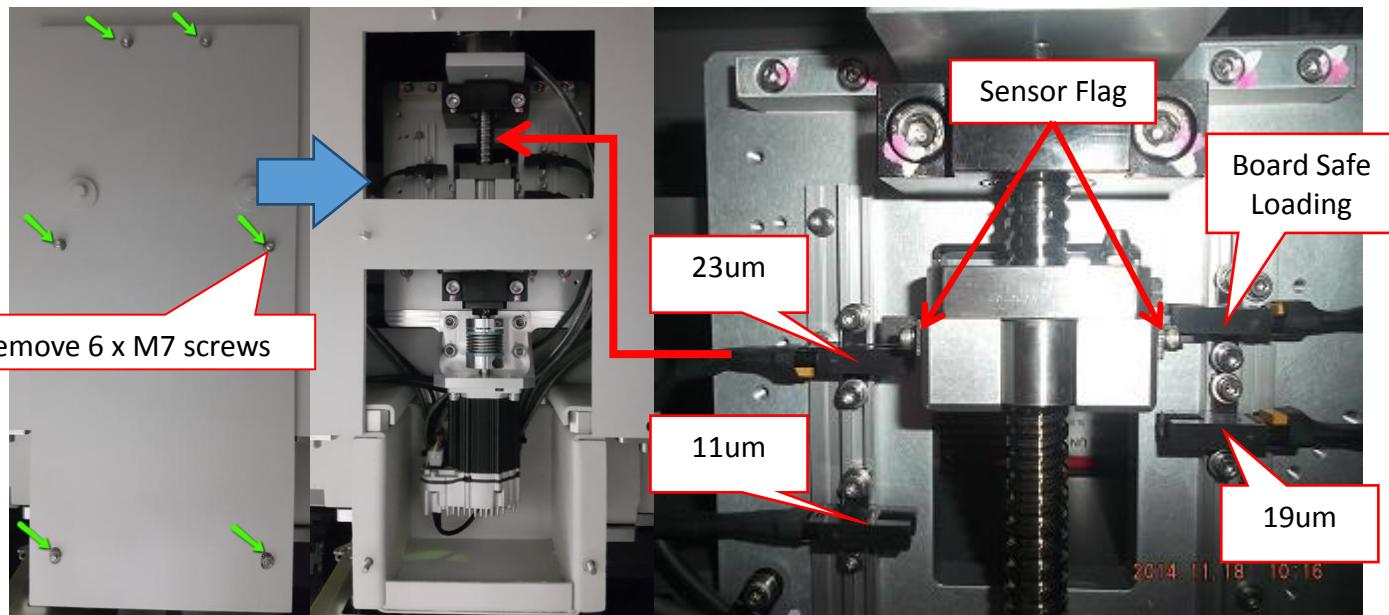

Figure 15 Z-axis position sensor
12. Remove 6 x M7 screws & U-COLUMN WINDOW ASSEMBLY (P/N, 4JAHW-A049) as shown in Figure 15.